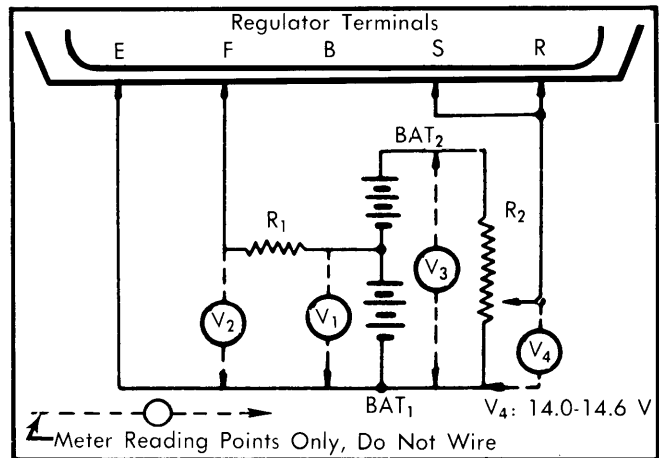

Fig. 1 Test Circuit For Integrated Circuit Regulator
1) Assemble a test circuit using the following components: One 10 ohm 3 watt resistor (R_1), one 0-300 ohm 3 watt variable resistor (R_2), two 12 volt batteries (BAT_1 & BAT_2) and one 0-30 volt DC voltmeter. See Fig. 1.